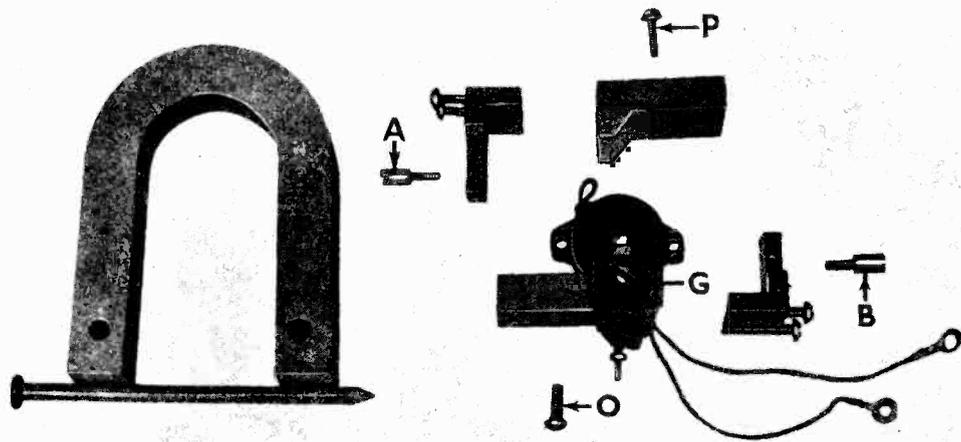
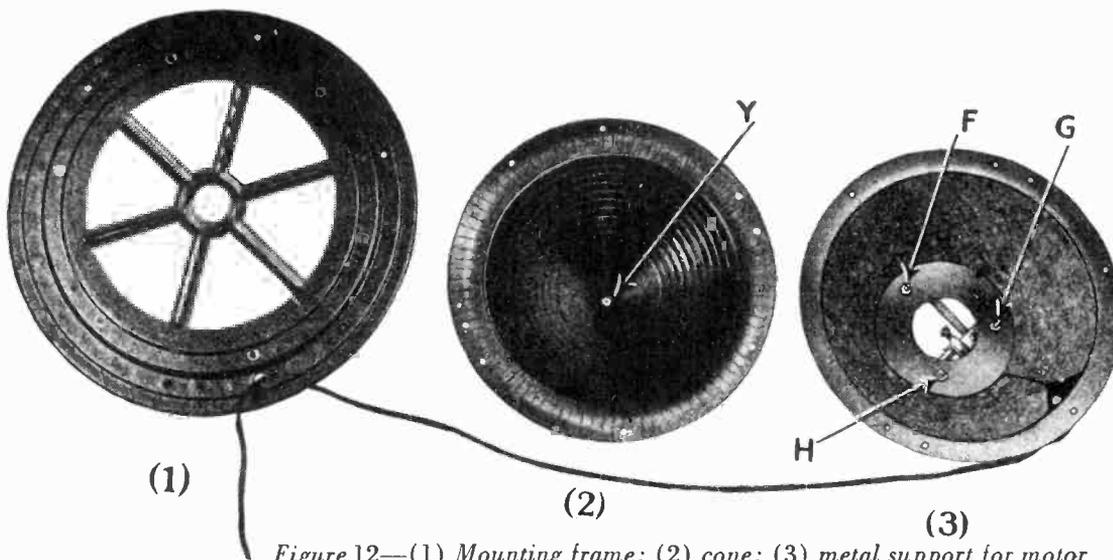

Figure 9—Motor mechanism partly exploded
Figure 12—(1) Mounting frame; (2) cone; (3) metal support for motor
Rattle and noisy reception are sometimes caused by a loose thrust lever. To correct this condition tighten the thrust lever mounting clamps by means of screw G, Figure 9. Sometimes when this is done a readjustment of the armature as described in Part I, Section 4 may be necessary. Any loose screw or nut in the motor mechanism may cause an audible rattle when the speaker is in operation. If any trouble is experienced along this line all the screws and nuts in the motor mechanism should be gone over and the loose ones tightened.
- (c) Remove the cone by removing six bolts and nuts around the edge and the cone center nut located at Y, Figure 12.
- (d) The motor mechanism may now be removed by removing nuts F, G, H, Figure 12. The magnet coil leads must be unsoldered before the motor can be cleared of the frame. Place a large nail or soft iron bar across the poles of the permanent magnet to act as a keeper (See Figure 9).
- (e) Remove the thrust lever supporting screw G, Figure 9, and apply a hot soldering iron to the thrust lever armature drive pin connection point F, Figure 8. The thrust lever and driving rod may now be removed.
- (f) Disassemble the motor mechanism by removing screw O, Figure 9, and the corresponding screw on the other side of the mechanism. Also remove screws A and B, Figure 9. The magnet coils may now be removed by slipping one off the armature and the other off the armature and drive pin.